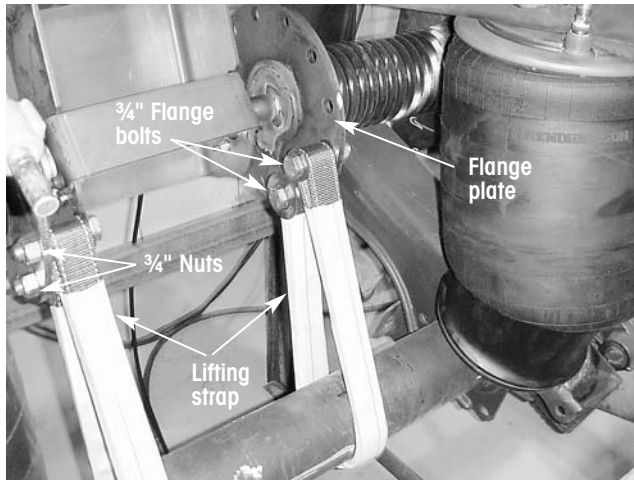

Figure 13. Remove lifting straps from flange plates
9. Remove the 3/4-inch flange bolt and nut that secures the ends of each lifting strap to each flange plate (figure 13).
6. Remove the 3/4-inch flange bolt and nut that secures the ends of each lifting strap to each flange plate (figure 13).